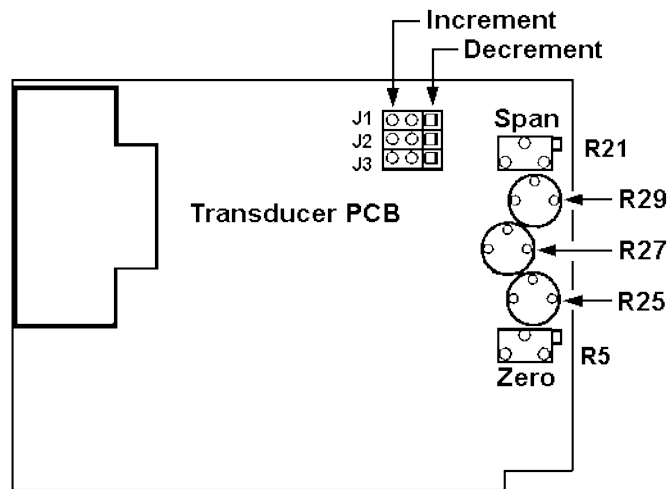

Figure 4-7. Printed Circuit Board Component Locations
Step 4. Adjusting Linearity (see Figure 4-7)
Increase the flow rate to 50% of full scale. If the output is within +0.05 V (0.2 mA), no adjustment is necessary. If the output is beyond these limits, install a jumper block at J1 in the appropriate position (see Figure 4-7). Adjust R25 for the proper reading.